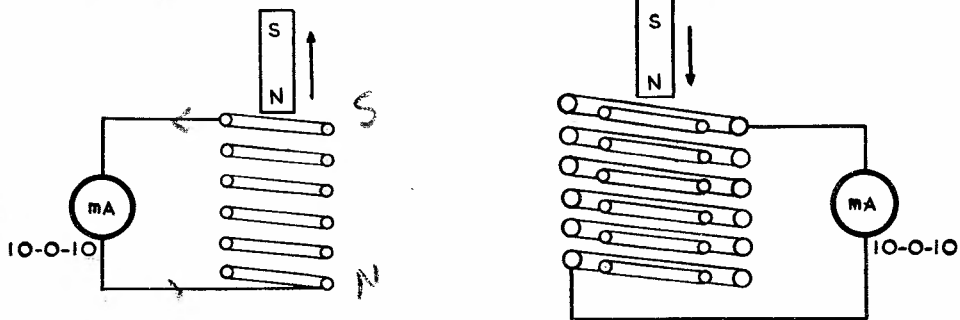

FIG. 4.
3. On Figs. 4 complete the details of (i) direction of current, (ii) direction of field, in relationship to the indicated direction of magnet movement.